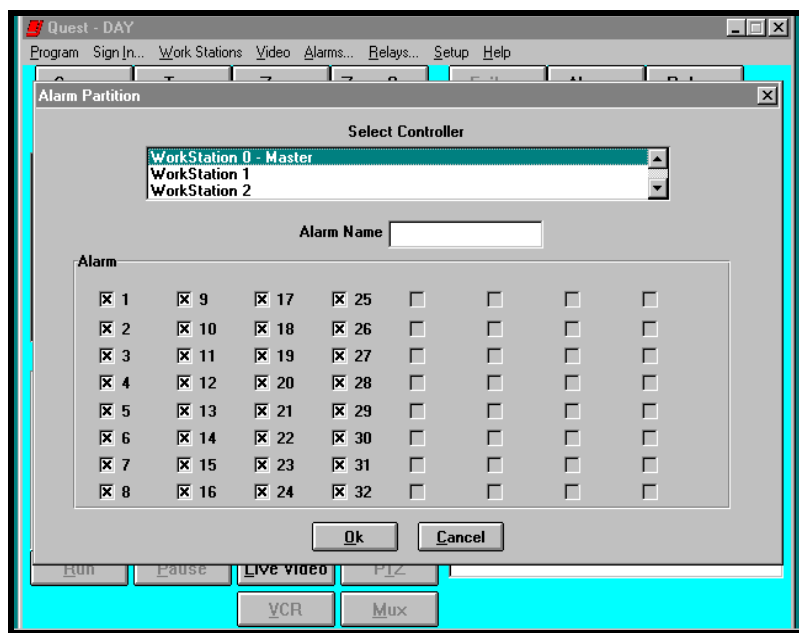

Figure 3-4. Alarm Partitioning
In order for a work station to control alarms, it must be partitioned. Each of the five (5) work stations can be assigned alarms for operation. The same alarms can be partitioned to different work stations. Figure 3-4 illustrates the Alarm Partitioning screen.